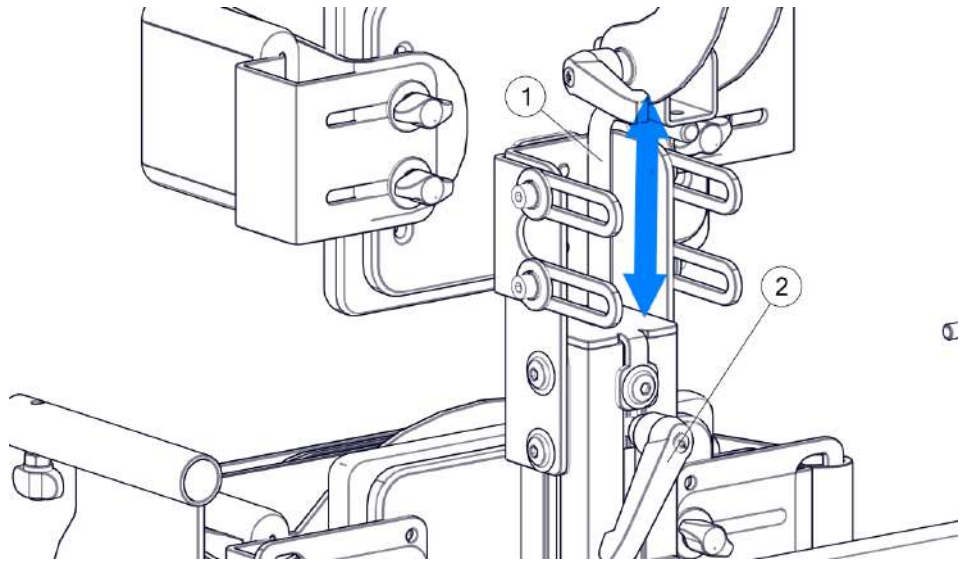
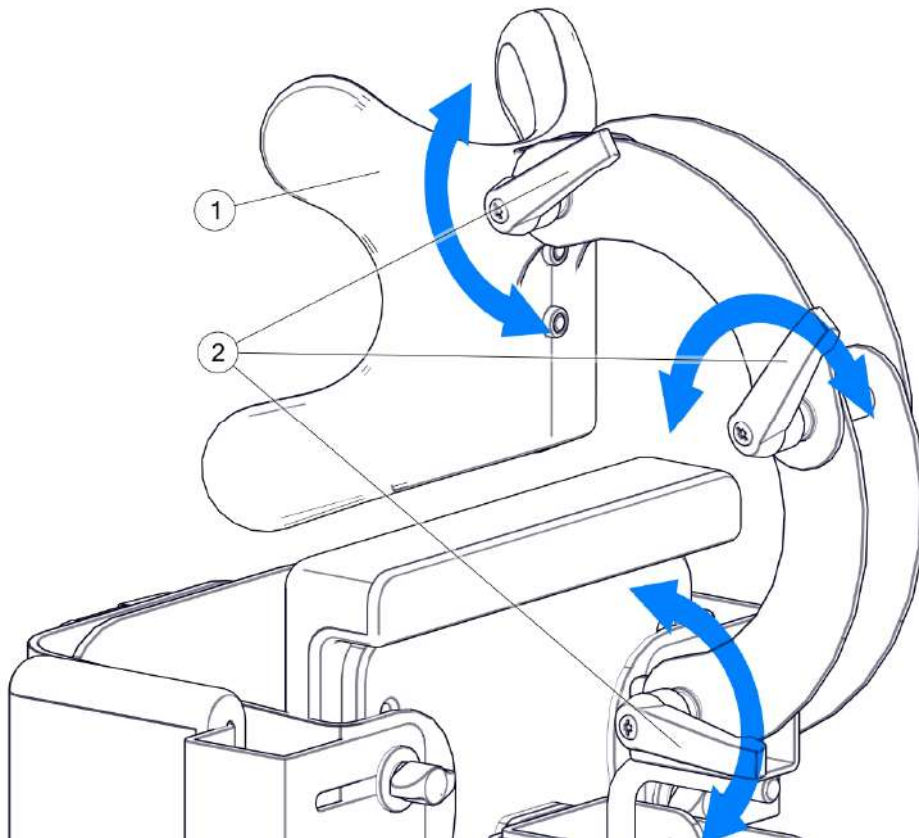

Fig. 26
Fig. 27
Fig. 26 and Fig. 27 To install the headrest, insert the headrest holder rod (1) into the opening in the upper part of the stander column. Then adjust the height of the headrest and use the knob (2) to prevent the headrest from sliding out.